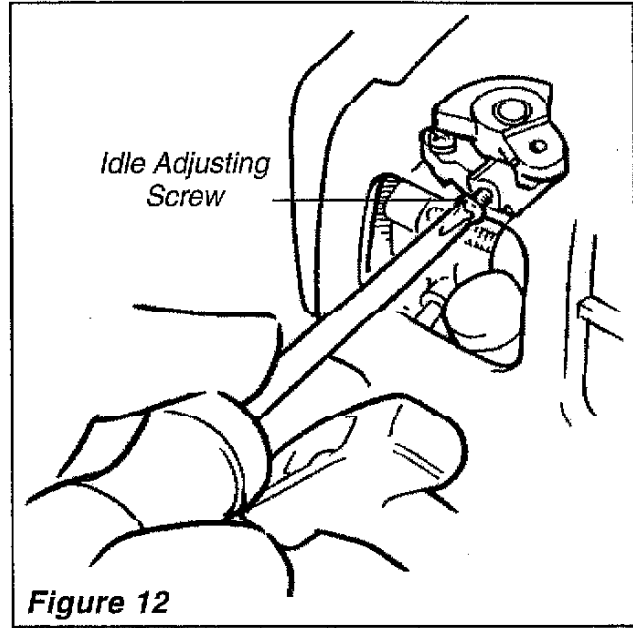

Figure 12
2. If the cutting attachment moves at engine idle, reduce idle speed by turning the idle adjusting screw counter-clockwise. See figure 12.